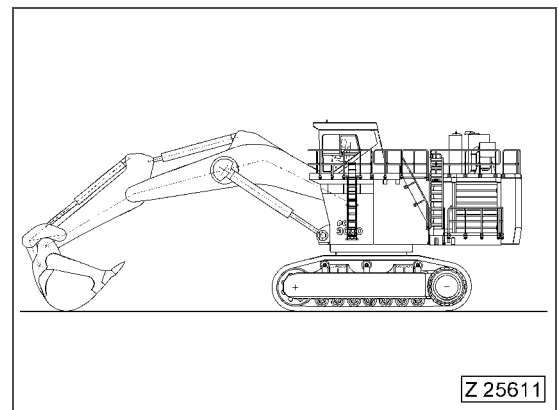

Fig. 5-71
- Park the machine on the prepared flat area and position the bucket on the ground with the bucket cylinders in fully extended and the stick cylinders in fully retracted position (Fig. 5-71).